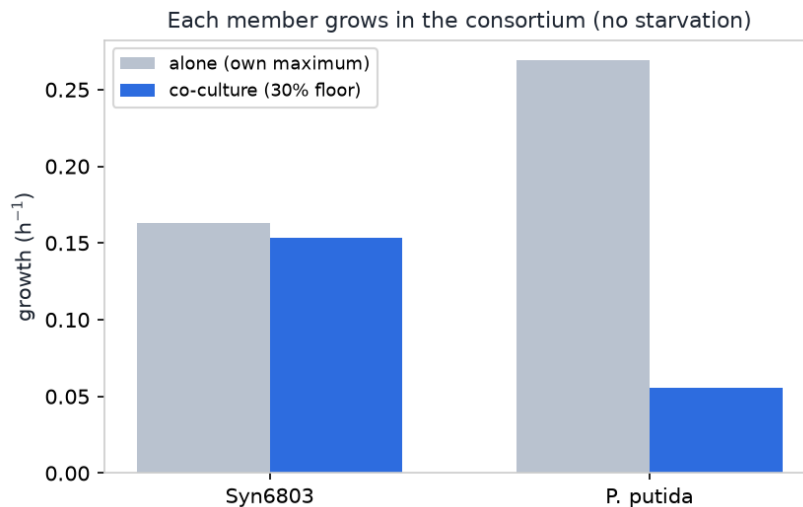

Figure E.4. Each member grows in the consortium. With the no-starvation floor the faster grower cannot monopolise the shared nutrients.
- 4 Run **Community member growth**. Both organisms grow. PCC 6803 at 0.154 and P. Putida at 0.055 h^{-1} (Figure E.4). Neither is starved.